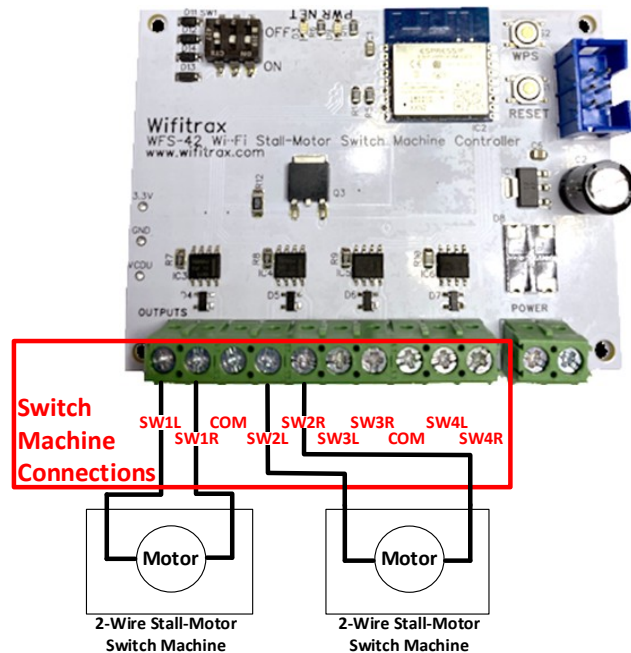

Figure 2. Connection Diagram for Stall-Motor Switch Machines
- (3) The WFS-42 only controls Stall-motor Switch machines, so you must use that type. You can connect up to four switch machines as in Figure 2. Connect your WFS-42 to DC or DCC power, 12 – 18 Volts. About 15 V DC is usually ideal or about 14-15 V Peak-Peak DCC. It does not matter which way around you connect the power. Do not turn on the power until ready for testing. Mount your WFS-42 suitably so that it does not move around and possibly touch track voltage. If it does, it will likely be destroyed.